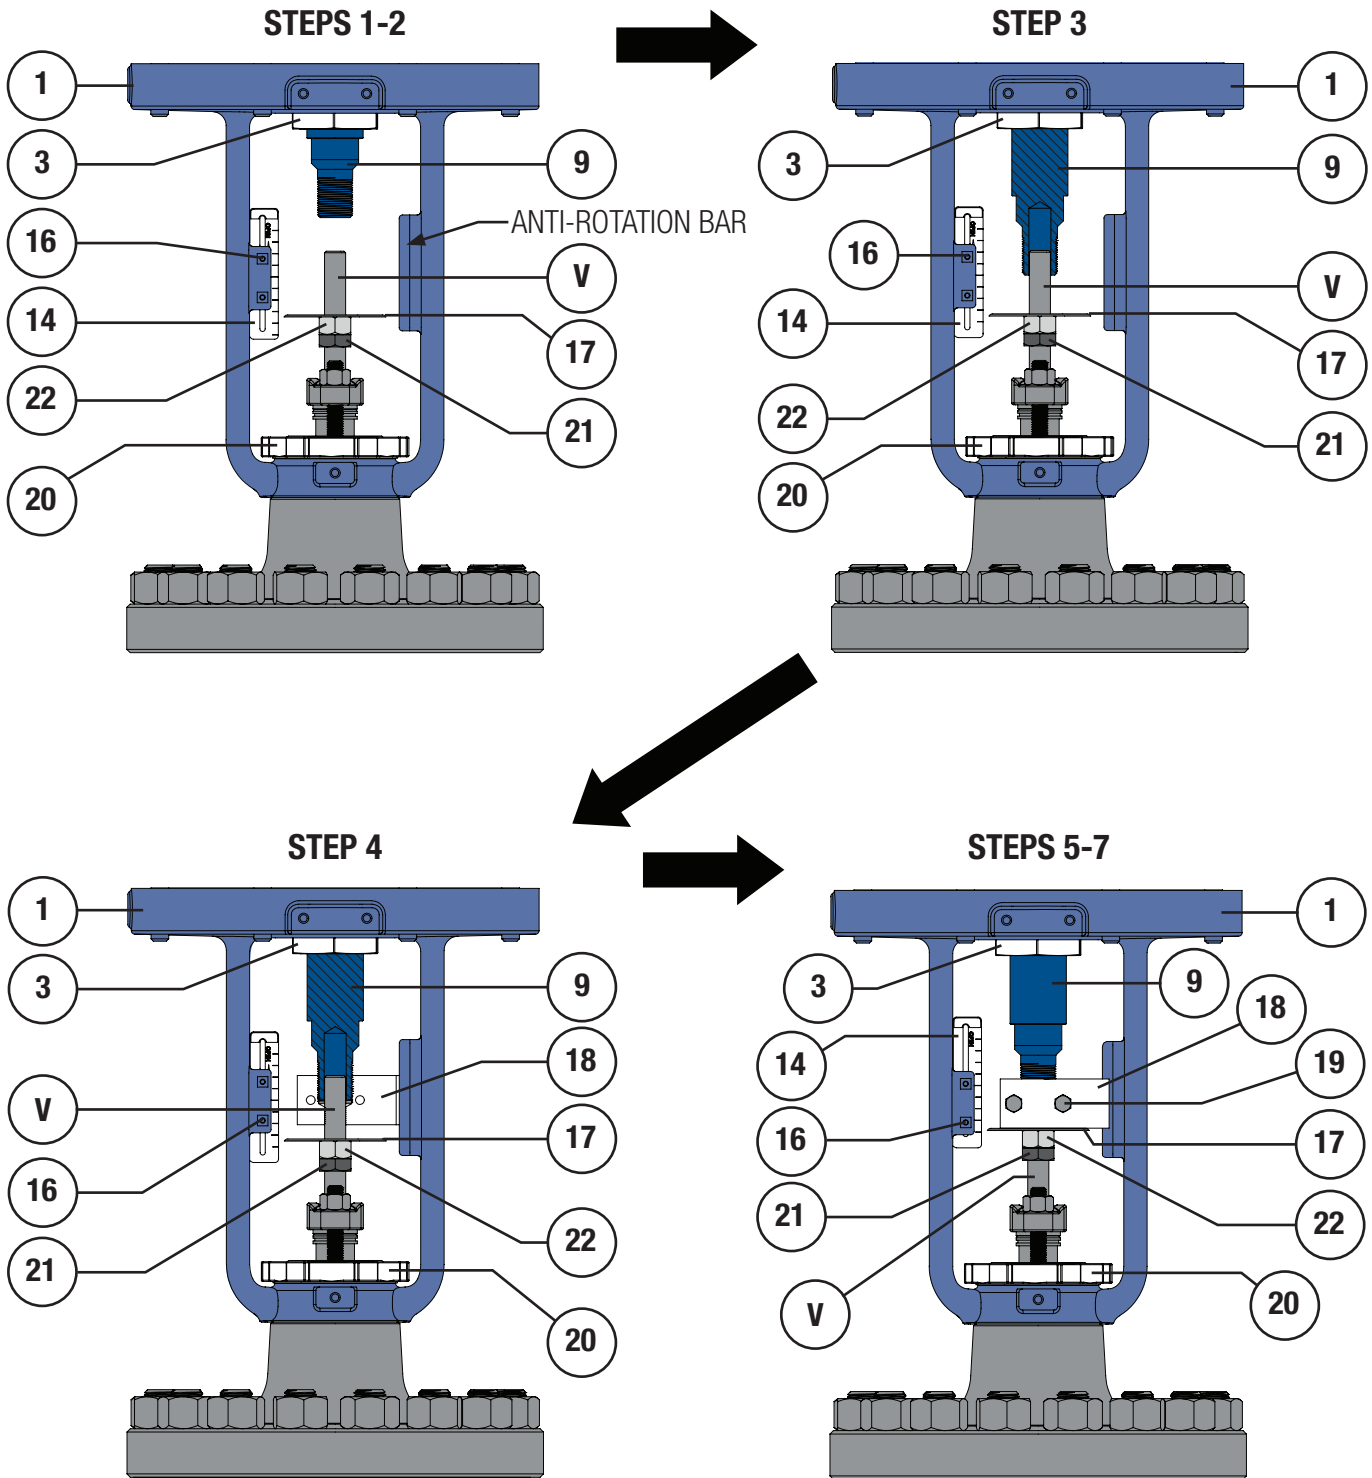

Figure 8 Connecting Block Installation (Size 3113 / 3-9/16" Yoke Boss Shown)
- 5 Install the connecting block (Key 18) using the cap screws (Key 19) as shown in Figures 8 & 9. **NOTE:** Proper alignment of the connecting block is essential, the threads of the connecting block should engage the threads of the valve stem (Key V) and piston rod (Key 9) by a distance equal to that of the stem/rod diameter or greater. Avoid cross-threading any parts, a slight change in supply pressure may be necessary to achieve proper alignment.
- 3 Loosen and lower the jam nut (Key 21), hex nut (Key 22) and travel disc (Key 17, for smaller sized actuators) away from the connecting block (Key 18). Refer to Figure 8.